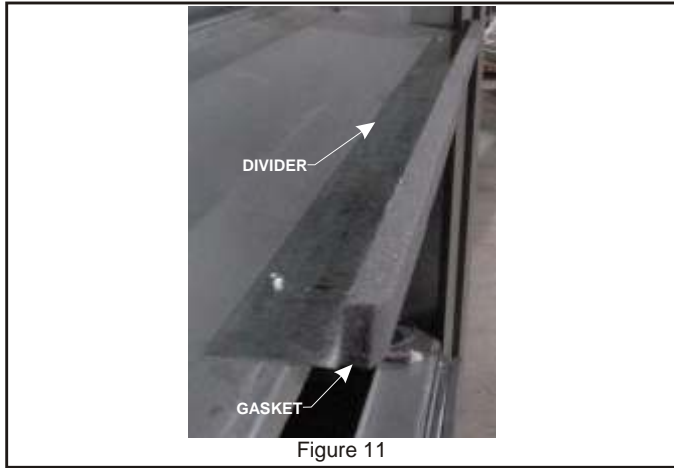

Figure 11
2. Install divider. Attaching to rooftop unit division panel with 1" flange pointing upward. This part has slots to aid in setting to proper position (Approx. 1" away from divider edge). Apply $\frac{3}{4}$ " x $1 \frac{1}{4}$ " gasket to front edge of seal stop. **See Figure 11.**